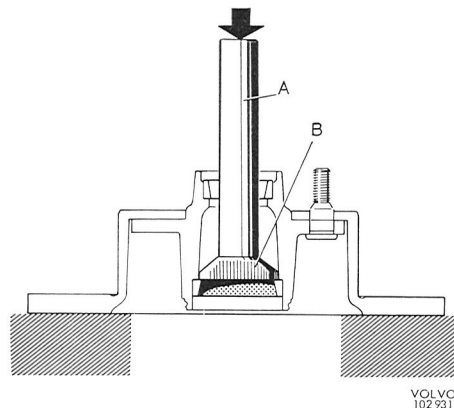
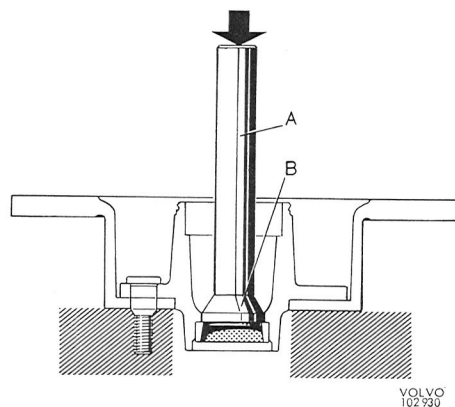

Fig. 7-21. Inner bearing race removal
Fig. 7-22. Outer bearing race removal
5. Remove the bearing races. Use drift 2724 (Fig. 7-21) for the inner bearing ring together with standard handle 1801. Use drift 2725 for the outer bearing race together with standard handle 1801 (Fig. 7-22).